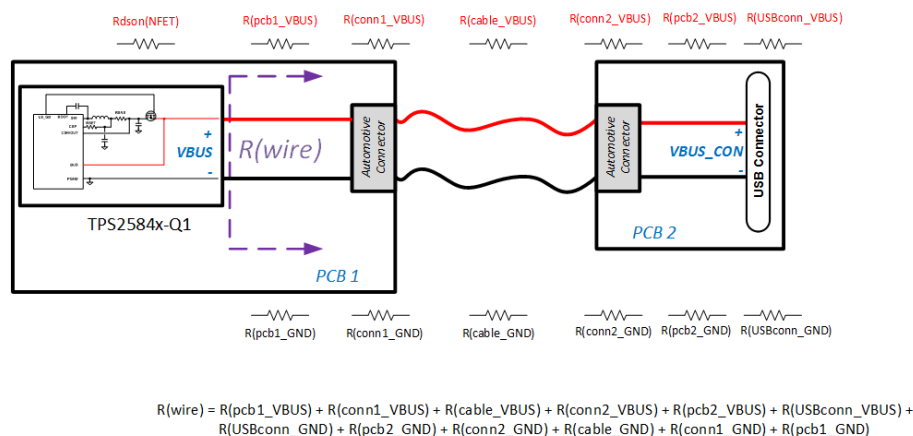

Figure 10-19. Automotive USB Resistances
When a load draws current through a long or thin wire, there is an IR drop that reduces the voltage delivered to the load. Cable droop compensation linearly increases the voltage at the CSN/OUT pin of TPS2584x-Q1 as load current increases with the objective of maintaining V_{BUS_CON} (the bus voltage at the USB connector) at 5 V, regardless of load conditions. Most portable devices charge at maximum current when 5 V is present at the USB connector. Figure 10-19 provides an example of resistor drops encountered when designing an automotive USB system with a remote USB connector location.
- Cable compensation: Total resistance including cable resistance, contact resistance of connectors, TPS2584x-Q1 current sense resistor and external NFET $r_{DS(on)}$ (if used). Refer to Figure 10-19 for examples of resistance in an automotive application.